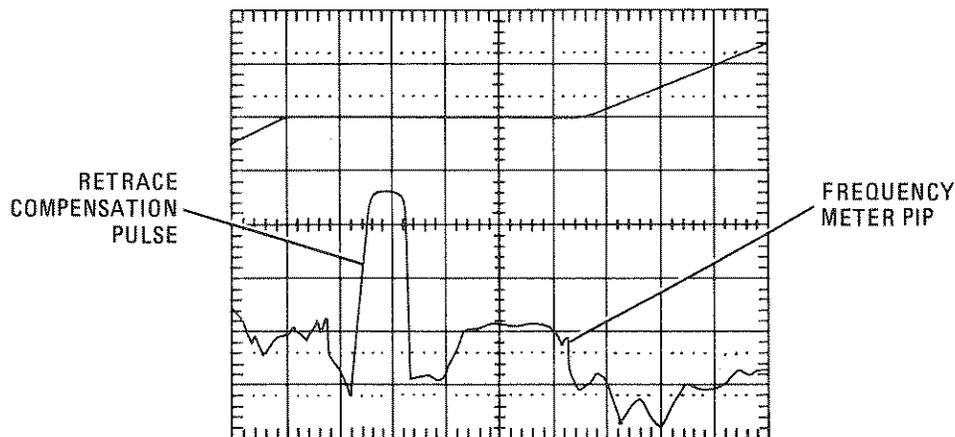

Figure 5-13. YO Retrace Compensation Pulse
5. Use the delayed sweep vernier to set the delayed part of the trace on the bandswitch point between Band 1 and Band 2 as shown in Figure 5-13.
7. Start with A8R55 (RTC COMP) fully clockwise, and adjust it for the widest and flattest pip while tracking the bandswitch frequency with the Frequency Meter. A well adjusted retrace compensation pulse is shown in Figure 5-13.